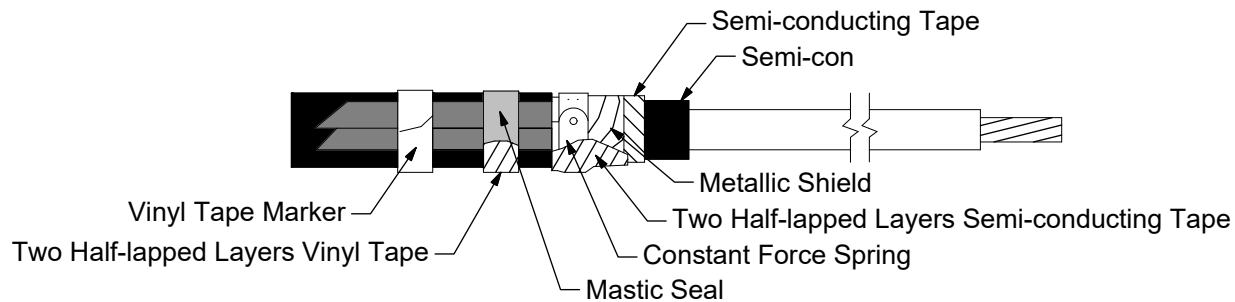

Figure 5A
6. Wrap two half-lapped layers of vinyl tape around the mastic seal. Apply two half-lapped layers of semi-conducting tape over the constant force spring and exposed metallic shield. Do not cover the exposed semi-con insulation shield. See Figure 5A.